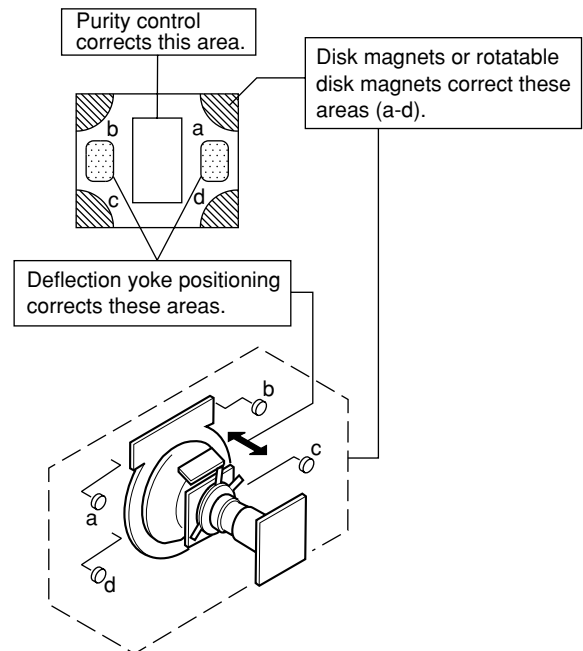

Figure 2-1-3
7. If the beam does not land correctly in all the corners, use a magnet to correct it. (see figure 2-1-3)